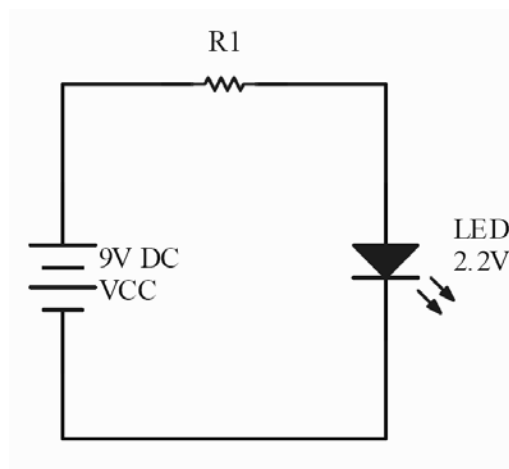

Figure 12: LED Circuit
3. Calculate R1 and build the LED circuit shown in Figure 12. The exact value of the resistor calculated may not exist. Use the closest resistor value that you can find but be on the safe side. In other words, choose a resistor with value closest to the calculated resistance that will result in no more than 20mA current. Measure the voltage drop across the LED and R1 and the current through the circuit. Note: to measure the current, you need let the current pass through the multimeter.